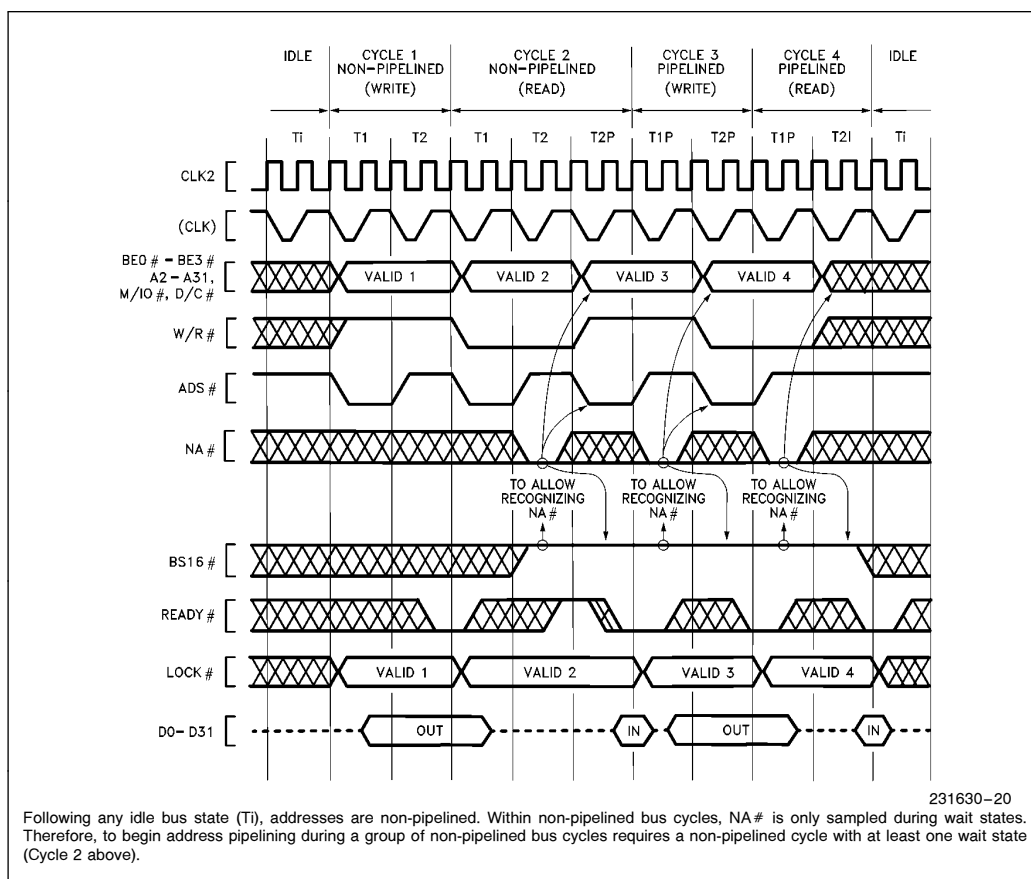
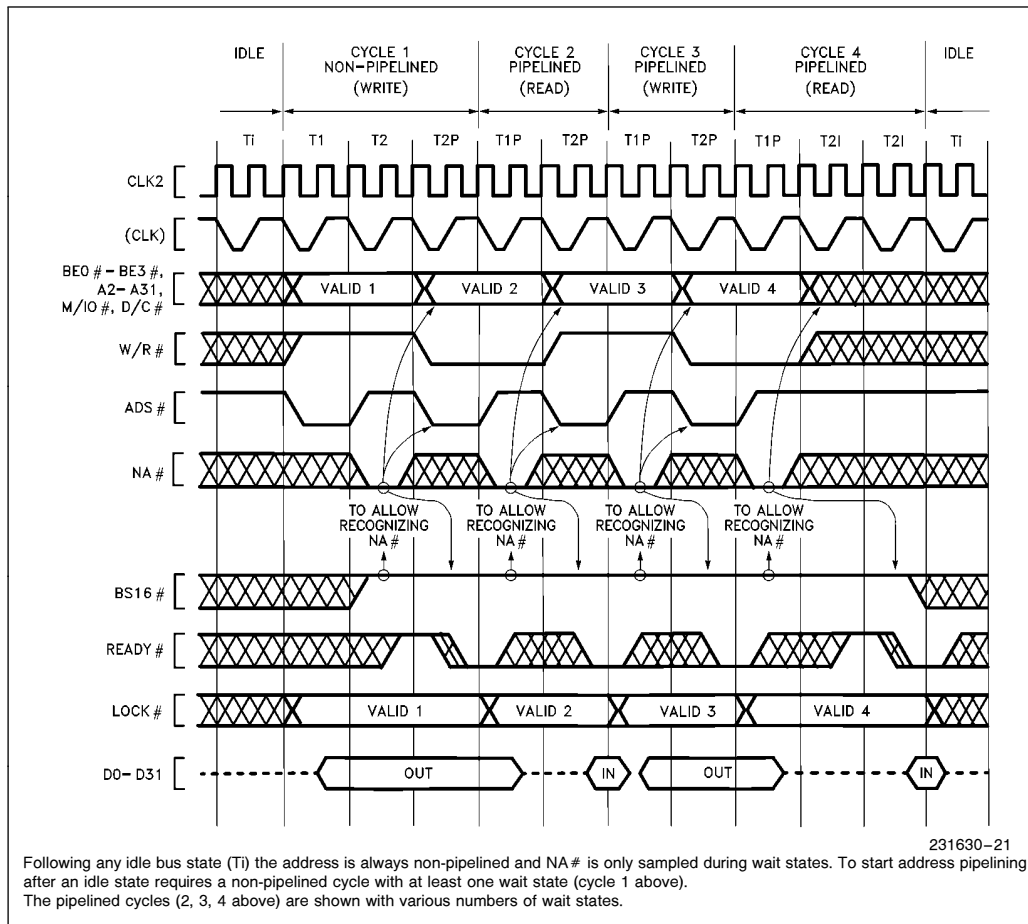
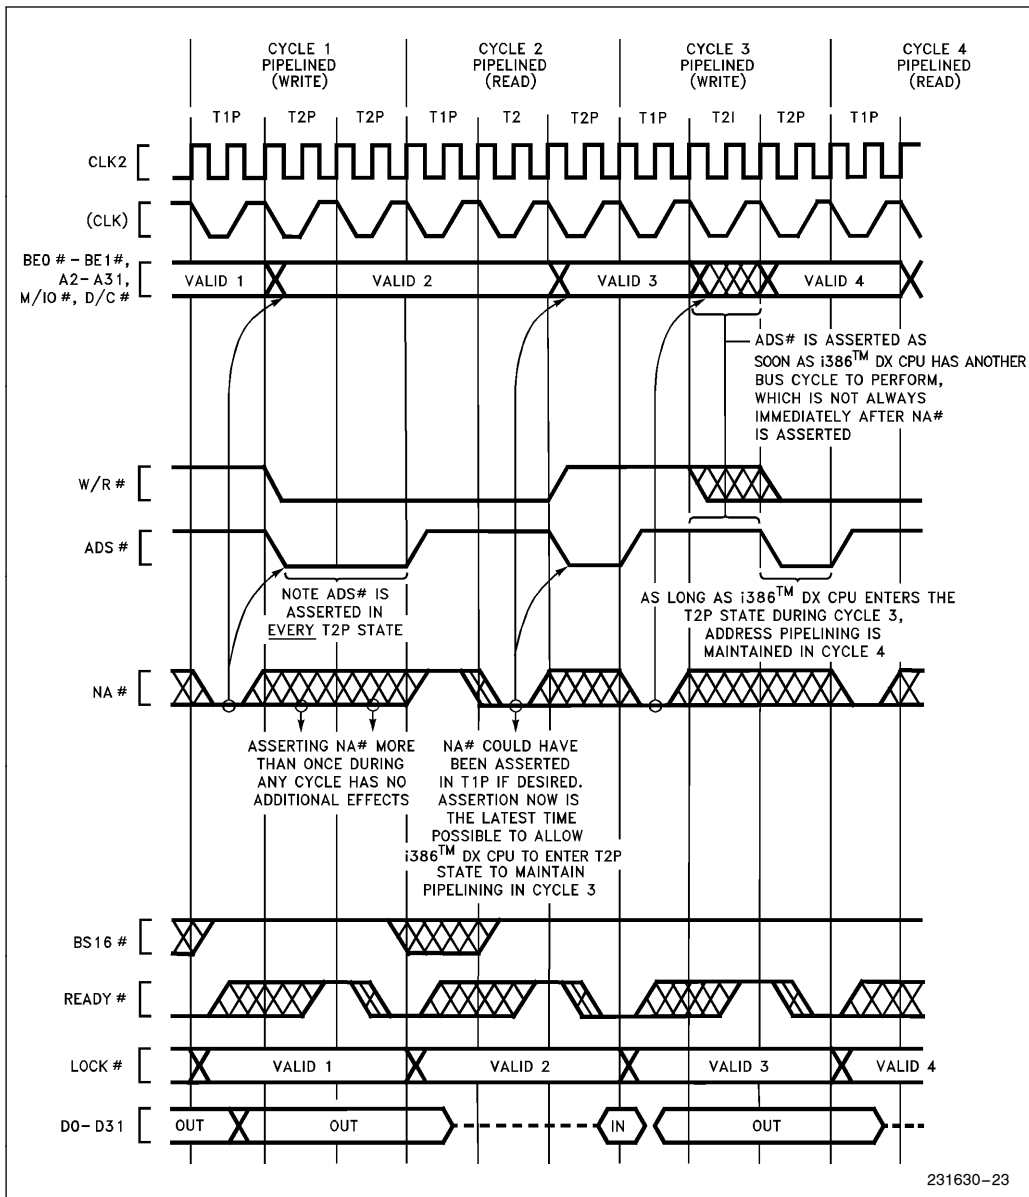

Figure 5-16. Transitioning to Pipelined Address During Burst of Bus Cycles
Figure 5-17. Fastest Transition to Pipelined Address Following Idle Bus State
Figure 5-19. Details of Address Pipelining During Cycles with Wait States
Once a bus cycle is in progress and the current address has been valid for at least one entire bus state, the  $NA\#$  input is sampled at the end of every phase one until the bus cycle is acknowledged. During non-pipelined bus cycles, therefore,  $NA\#$  is sampled at the end of phase one in every T2. An example is Cycle 2 in Figure 5-16, during which  $NA\#$  is sampled at the end of phase one of every T2 (it was asserted once during the first T2 and has no further effect during that bus cycle).
- 1) For  $NA\#$  to be sampled asserted,  $BS16\#$  must be negated at that sampling window (see Figure 5-16 Cycles 2 through 4, and Figure 5-17 Cycles 1 through 4). If  $NA\#$  and  $BS16\#$  are both sampled asserted during the last T2 period of a bus cycle,  $BS16\#$  asserted has priority. Therefore, if both are asserted, the current bus size is taken to be 16 bits and the next address is not pipelined.
- 2) The next address may appear as early as the bus state after NA# was sampled asserted (see Figures 5-16 or 5-17). In that case, state T2P is entered immediately. However, when there is not an internal bus request already pending, the next address will not be available immediately after NA# is asserted and T2I is entered instead of T2P (see Figure 5-19 Cycle 3). Provided the current bus cycle isn't yet acknowledged by READY# asserted, T2P will be entered as soon as the Intel386 DX does drive the next address. External hardware should therefore observe the ADS# output as confirmation the next address is actually being driven on the bus.
must assume the current bus size is 32 bits. Therefore if NA# is sampled asserted within a bus cycle, BS16# must be negated thereafter in that bus cycle (see Figures 5-16, 5-17, 5-19). Consequently, do not assert NA# during bus cycles which must have BS16# driven asserted. See 5.4.3.6 Dynamic Bus Sizing with Pipelined Address.
- 4) Any address which is validated by a pulse on the Intel386 DX ADS# output will remain stable on the address pins for at least two processor clock periods. The Intel386 DX cannot produce a new address more frequently than every two processor clock periods (see Figures 5-16, 5-17, 5-19).
- 5) Only the address and bus cycle definition of the very next bus cycle is available. The pipelining capability cannot look further than one bus cycle ahead (see Figure 5-19 Cycle 1).
The transition to pipelined address is shown functionally by Figure 5-17 Cycle 1. Note that Cycle 1 is used to transition into pipelined address timing for the subsequent Cycles 2, 3 and 4, which are pipelined. The NA# input is asserted at the appropriate time to select address pipelining for Cycles 2, 3 and 4.
Once a bus cycle is in progress and the current address has become valid, the NA# input is sampled at the end of every phase one, beginning with the next bus state, until the bus cycle is acknowledged. During Figure 5-17 Cycle 1 therefore, sampling begins in T2. Once NA# is sampled asserted during the current cycle, the Intel386 DX is free to drive a new address and bus cycle definition on the bus as early as the next bus state. In Figure 5-16 Cycle 1 for example, the next address is driven during state T2P. Thus Cycle 1 makes the transition to pipelined address timing, since it begins with T1 but ends with T2P. Because the address for Cycle 2 is available before Cycle 2 begins, Cycle 2 is called a pipelined bus cycle, and it begins with T1P. Cycle 2 begins as soon as READY# asserted terminates Cycle 1.
Example transition bus cycles are Figure 5-17 Cycle 1 and Figure 5-16 Cycle 2. Figure 5-17 shows transition during the very first cycle after an idle bus state, which is the fastest possible transition into address pipelining. Figure 5-16 Cycle 2 shows a transition cycle occurring during a burst of bus cycles. In any case, a transition cycle is the same whenever it occurs: it consists at least of T1, T2 (you assert NA# at that time), and T2P (provided the Intel386 DX has an internal bus request already pending, which it almost always has). T2P states are repeated if wait states are added to the cycle.
Note three states (T1, T2 and T2P) are only required in a bus cycle performing a **transition** from non-pipelined address into pipelined address timing, for example Figure 5-17 Cycle 1. Figure 5-17 Cycles 2, 3 and 4 show that address pipelining can be maintained with two-state bus cycles consisting only of T1P and T2P.
Once a pipelined bus cycle is in progress, pipelined timing is maintained for the next cycle by asserting NA# and detecting that the Intel386 DX enters T2P during the current bus cycle. The current bus cycle must end in state T2P for pipelining to be maintained in the next cycle. T2P is identified by the assertion of ADS#. Figures 5-16 and 5-17 however, each show pipelining ending after Cycle 4 because Cycle 4 ends in T2I. This indicates the Intel386 DX didn't have an internal bus request prior to the acknowledgement of Cycle 4. If a cycle ends with a T2 or T2I, the next cycle will not be pipelined.